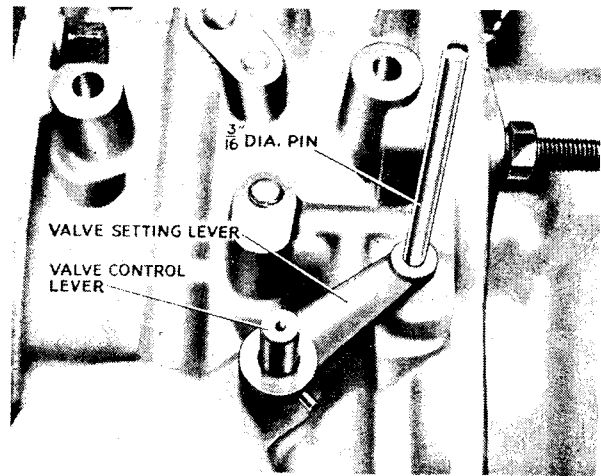

Fig. 36 Method of setting Valve Operating Levers.
9. On the right of the overdrive unit and pinned to the valve operating shaft, is a valve setting lever with a  $\frac{3}{16}$ " diameter hole. In the casting adjacent to this lever is another  $\frac{3}{16}$ " diameter hole. The valve setting lever should be rotated until the two  $\frac{3}{16}$ " diameter holes coincide and then a  $\frac{3}{16}$ " pin inserted through the lever into the casting, thus locking the operating shaft (Fig. 36).
On the O/S of the overdrive unit and pinned to the valve operating shaft, is a valve setting lever with a  $\frac{3}{16}$ " diameter hole. In the casting adjacent to this lever is another  $\frac{3}{16}$ " diameter hole. Actuate the solenoid with a 12 volt battery and while the plunger is drawn into the solenoid, and if the valve adjustment is correct, it should be possible to insert a  $\frac{3}{16}$ " diameter pin through the valve setting lever and into the casting (see Fig. 36).